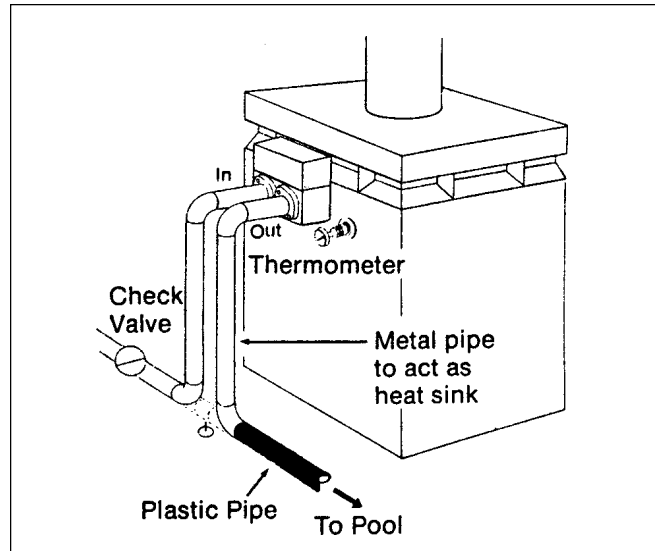

Figure 13. Thermometer Placement.
2. Install a thermometer in the 1/2" NPT threaded opening in the front header casting as shown in Fig. 13.